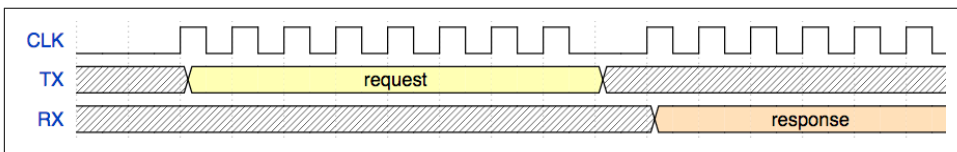

Figure 8-4. Serial communication provides a protocol to transfer data between devices
Have a look at Figure 8-4. In general, serial communication is based on the following idea: a transmitter (TX) has one line to send data and a receiver (RX) has another line to receive data. Two wires allow you to send and receive data independently from each other, which is called *full-duplex* communication.